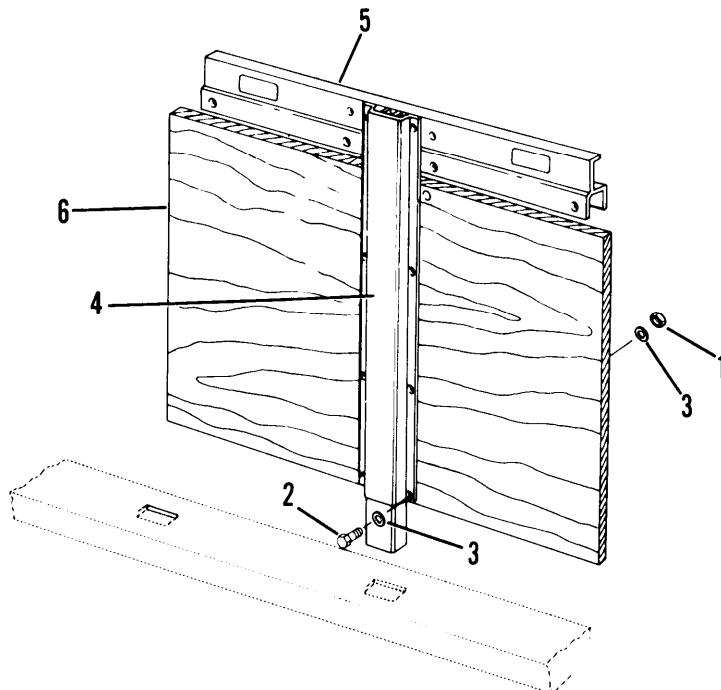

Figure 4-60. Side Panels
- (1) Remove twelve nuts (1, fig. 4-60) , screws (2) , washers (3) and stake (4) .
- (2) Pull off top rail (5) from board (6) .
- (1) Install top rail (5, fig. 4-60) on board (6).
- (2) Install stake (4), and secure using twelve screws (2), washers (3) and nuts (1).
- (3) Install side panels on semitrailer .